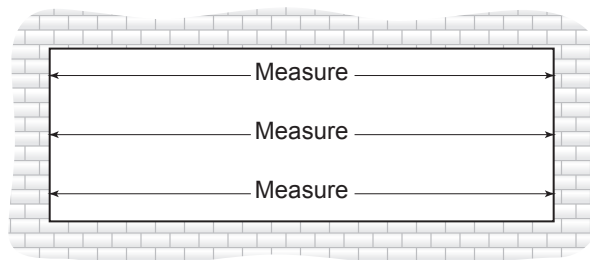

Fig. 23.2
- B. Measure the width of the opening (Rough Opening) at the top, middle and bottom. Select the smallest of these dimensions and subtract the left and right caulk joint width per approved shop drawing (1/2" minimum caulk joint at jambs). **SEE Fig. 23.2.**